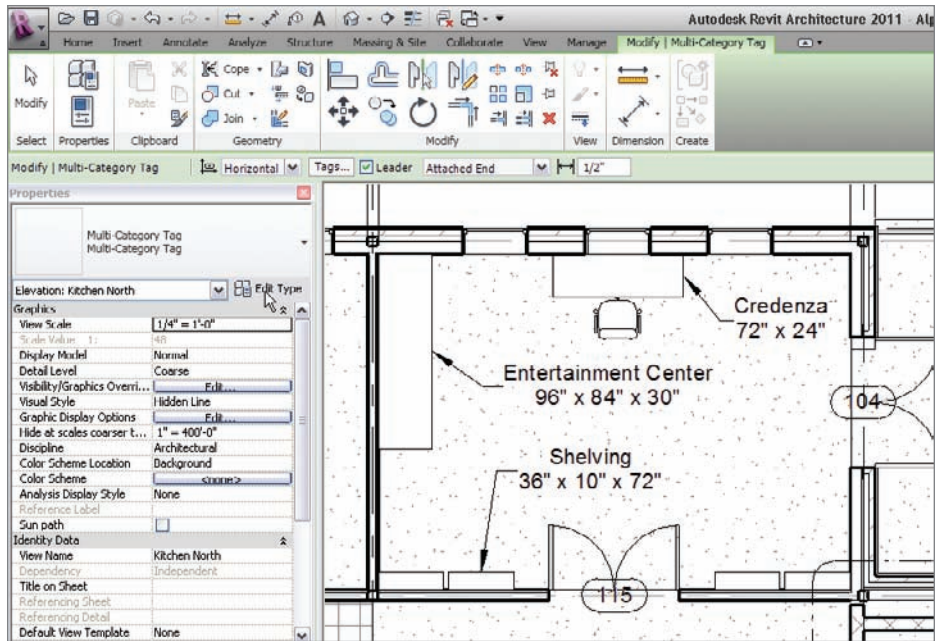

FIGURE 11.91 Adding the Multi-Category tag to the entertainment unit. Make sure you adjust the tag to show the information unobscured.
14. On the Options bar, check the Leader option, as shown in Figure 11.91.
15. Hover your mouse over the furniture items in the room shown in Figure 11.91. Notice that the tag is reporting the information for any item you hover over. Pick the entertainment unit to the left of the room.
20. Using the grips on the tag, move it out of the way, and adjust the leader so it looks like the one in Figure 11.91.
21. Add another tag to the credenza located on the north wall. Adjust this tag as well (see Figure 11.91).
22. Add one more tag to the shelving on the south wall of the room, and adjust the leader so it looks acceptable (again, see Figure 11.91).